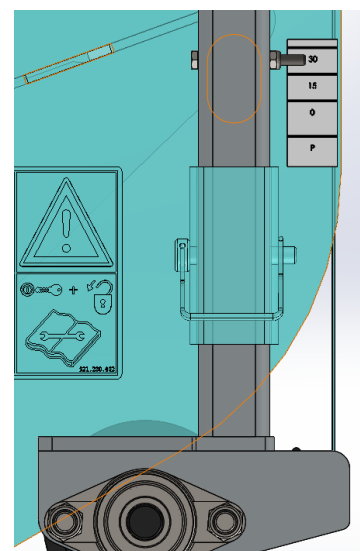

Figure 9
- Stick the height decall in the position as indicated in figure 9.